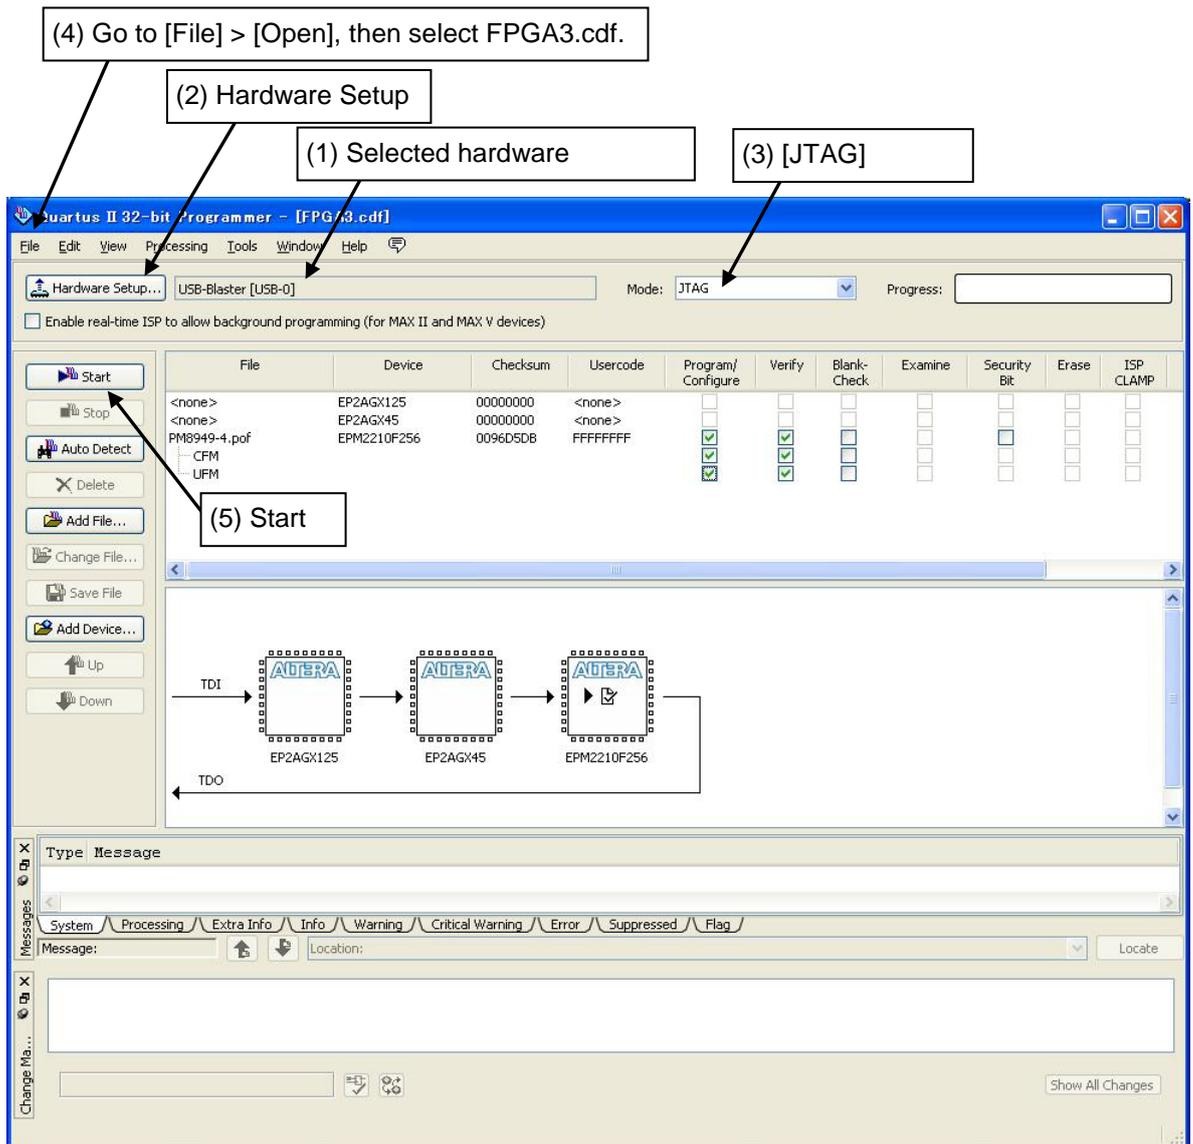

Fig. 6 CPLD Setting window
5. Check that ByteBlaster II (or USB Blaster) is selected (Fig. 6. (1)).
If ByteBlaster II that is connected to PC is not selected, or "No Hardware" is displayed, click [Hardware Setup](Fig. 6. (2)) and select the connected ByteBlaster II (or USB Blaster).
6. Select [JTAG] under [Mode] (Fig. 6. (3)).
9. Click Quartus II Programmer [Start] to update (Fig. 6. (5)).